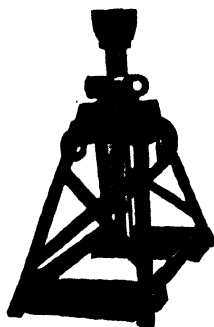

Fig. 47. Simple
**Wire Reels and Jacks.** The larger wires and cables should come, and usually do come, on regular reels. These reels are set up on screw-jacks, see Fig. 47, a steel bar or piece of conduit serving as the axle. There should be a separate reel for each "leg" of the run, that is, if it is a three-wire feeder there should be three reels. An alternative method is to order the feeders cut to length by the supplier and reeled "two abreast" or "three abreast" on one reel, depending on whether it is a two-wire or a three-wire run. They will then pull off together and you have only one reel to jack up.